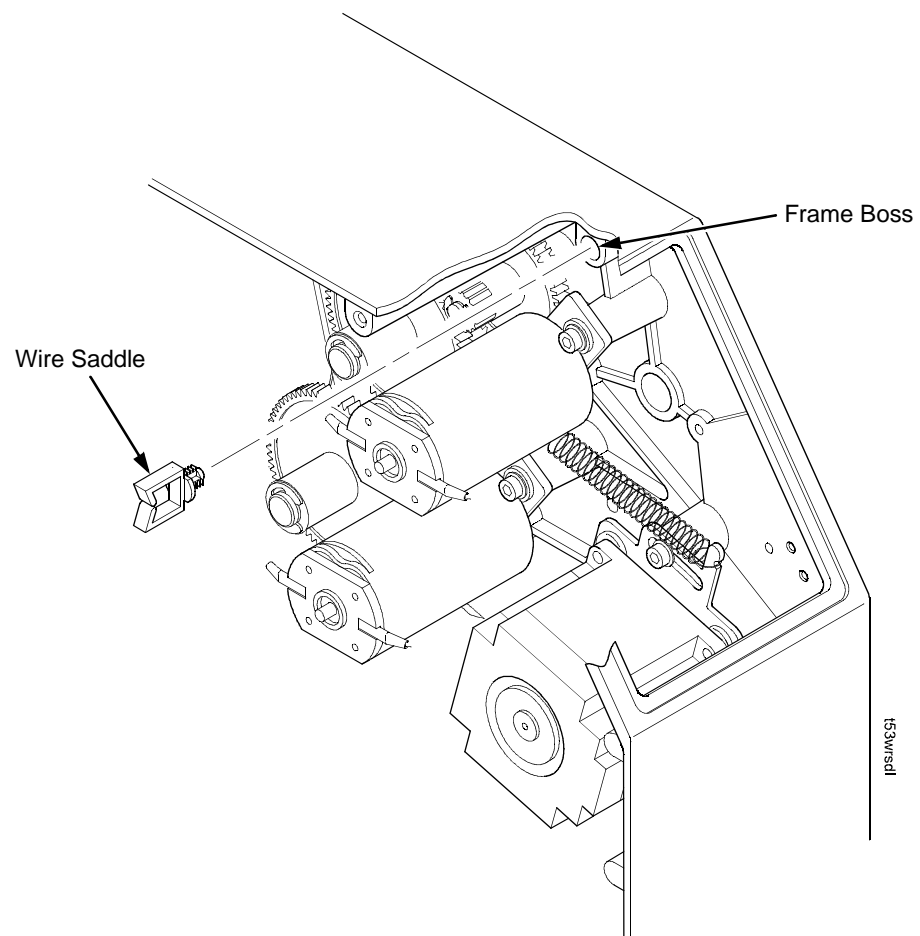

Figure 4. Inserting the Wire Saddle Into the Frame Boss
6. Insert the wire saddle into the frame boss. (Figure 4.)